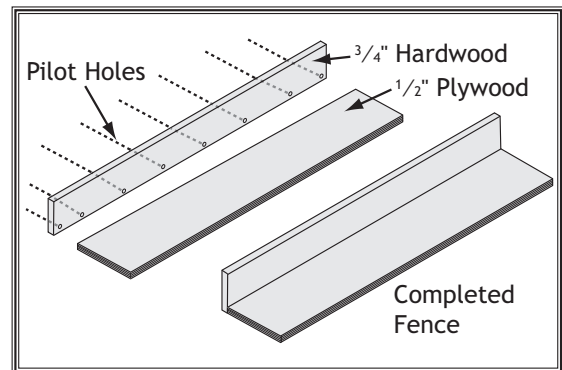

Figure 83. Location of pilot holes.
2. Pre-drill and countersink eight pilot holes $\frac{3}{8}$ " from the bottom of the 3" wide board, as shown in **Figure 83**, then fasten the $5\frac{1}{4}$ " and 3" wide boards with eight #8 x $1\frac{1}{4}$ " wood screws.